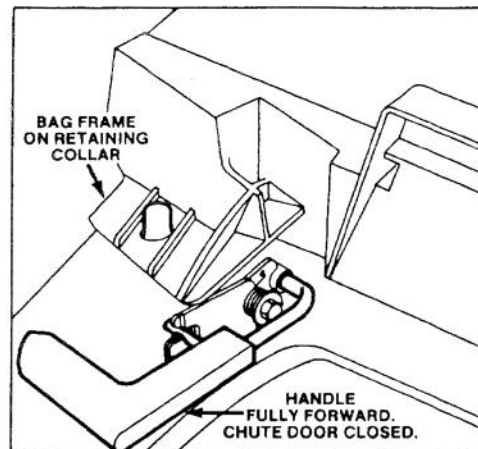

Figure 12
2. Assure chute door handle is fully forward and pin is engaged in catch (Fig. 12).
3. **INSTALLING BAG** — Slide hole in bag frame onto the retaining collar on housing (Fig. 12) and set rear of bag frame onto lower handle.
5. **EMPTYING BAG** — Stop engine and wait for all parts to stop. Move chute door handle forward to engage the locking pin with catch (Fig. 12). Grasp handle at front and rear of bag and lift bag off mower. Gradually tip bag forward to empty clippings.